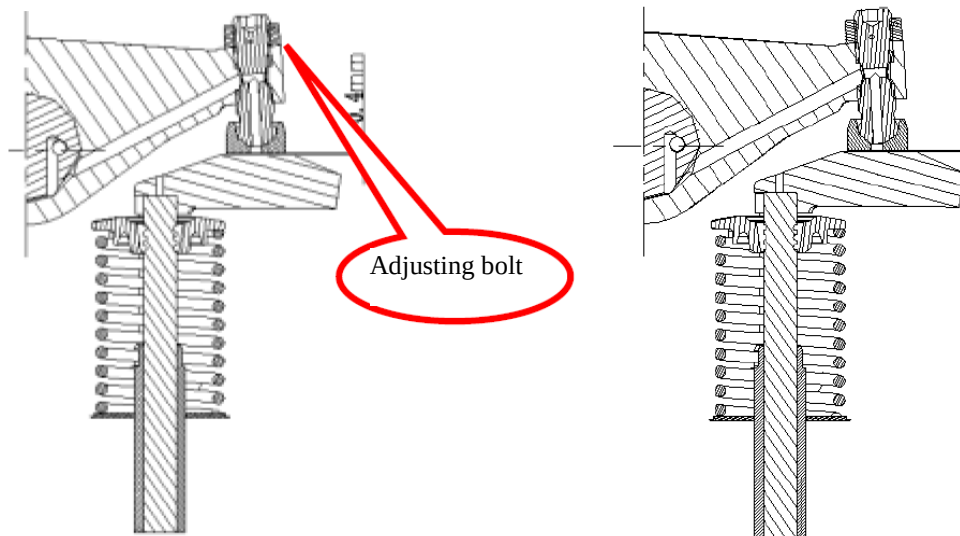

Fig.2-9 Cold state intake valve clearance 0.3mm Fig.2-10 Cold state exhaust valve clearance 0.5mm
- C. Check the clearance between the upper plane of valve bridge and valve rocker arm with feeler gauge according to fig.2-9 and fig.2-10.